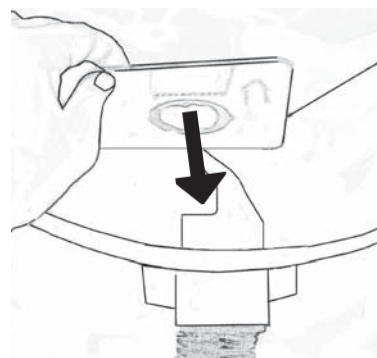

Fig. 23
1. Fit the dust bag's card with a hole into the bag holder, Fig. 23.